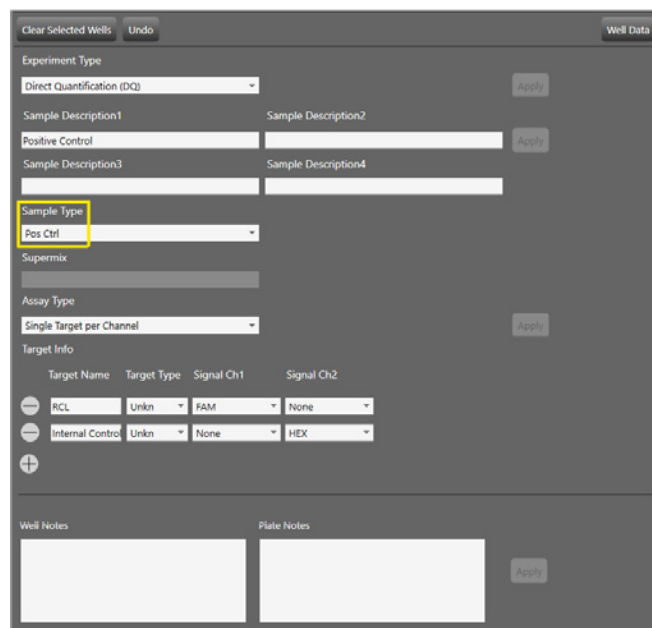

Fig. 2. Example of plate setup in the Plate Editor screen. Positive control wells should have the sample type Pos Ctrl (yellow rectangle).
Press Apply and then Save the template. On the Run Setup screen, name the plate and select the supermix. Press Start Run. See Figure 2 for an example.
- Move to the Edit tab and designate the following (see Figure 2 for details):
- Experiment Type: Direct Quantification (DQ)
1. Ensure that only the positive control wells for the assay are marked as sample type Pos Ctrl. If necessary, navigate to the Plate Editor tab and select the positive control wells. Under Sample Type, use the dropdown menu to select Pos Ctrl and click Apply. See Figure 2 for an example of the Plate Editor screen.